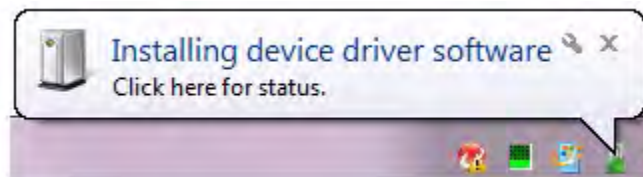

Figure 5. Install Device Driver Dialog, Windows 7
2. After the PC detects the new hardware, it will display the *Installing device driver software* dialog shown in Figure 5.